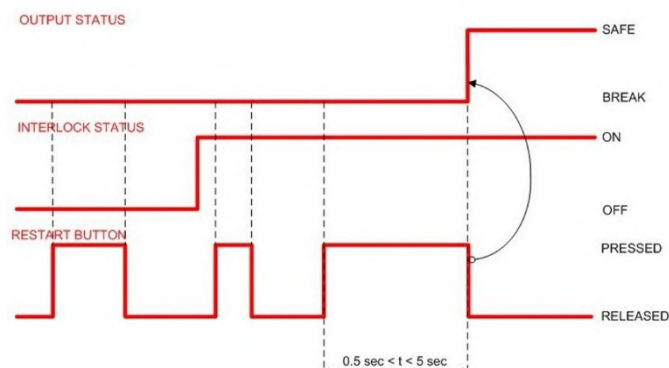

Figure 3 - Manual Restart timing
- **Manual Restart**, After activation, ESPE resets to Normal Operation only once the RESTART function has been activated (see Figure 3 on page 36) and provided that the object has been removed from the controlled area.